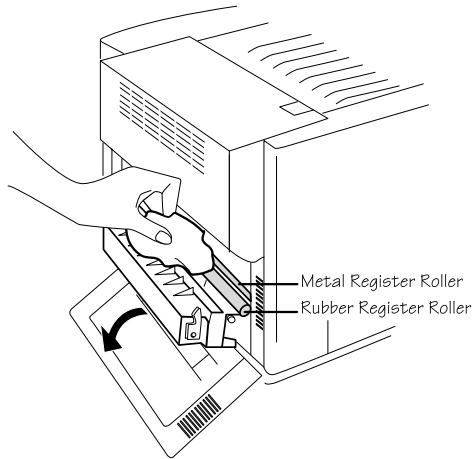

Fig. 6.18 *Clean the Register Rollers*
- Using dry cotton cloths, wipe the metal register roller in the transfer unit and the rubber register roller in the inner section of the printer. Then, wipe the transfer roller in the top section of the transfer unit (fig. 6.18). Rotate this roller to clean all sides with the cloth to remove paper dust, toner buildup, and other debris.